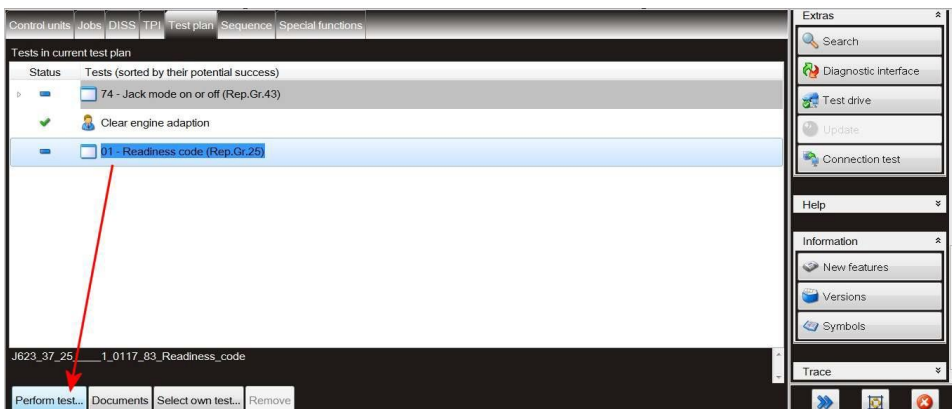

Figure 8
9) Referring to Figure 8, Once the Clear engine adaption procedure is completed the operative will automatically be guided to conduct the Readiness code procedure